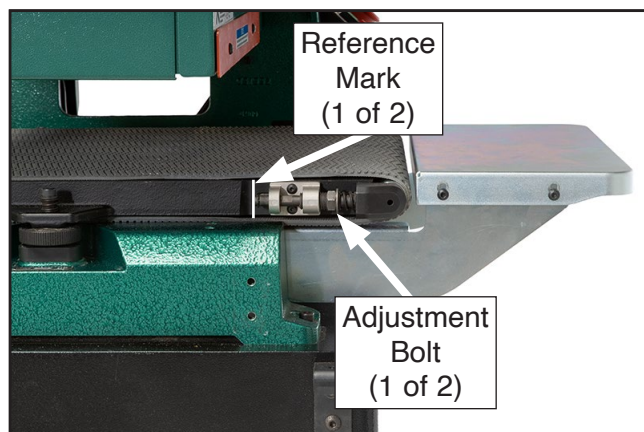

Figure 52. Location of conveyor belt adjustment bolts (left side shown).
1. Use pencil to make reference mark on each side of conveyor table where end of adjustment screws are positioned (see **Figure 52**). These reference marks will provide a visual aid in keeping track of adjustments.